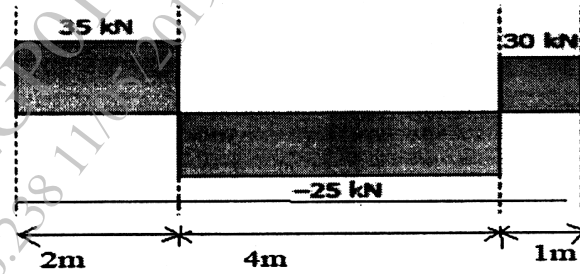

Fig2
- (b) Fig 2 shows SFD. Draw loading diagram and BMD. Also find point of contraflexure if any [6M]